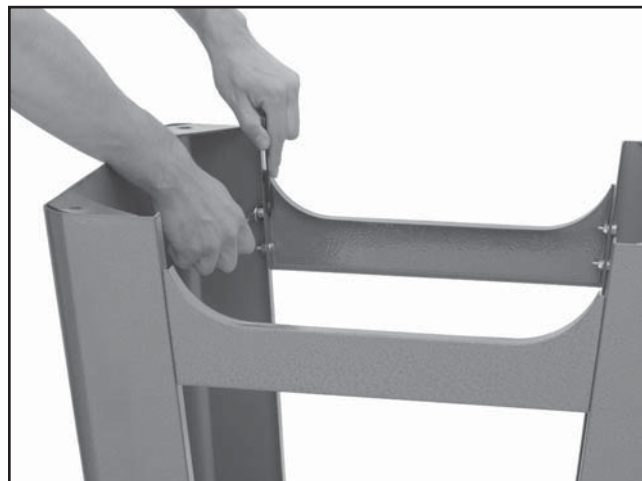

Figure 8. Lower side covers bolted to stands.
2. Attach the lower stand sides to the stand sides (**Figure 8**) with the remaining eight M6-1 x 16 hex bolts, flat washers and flange nuts.